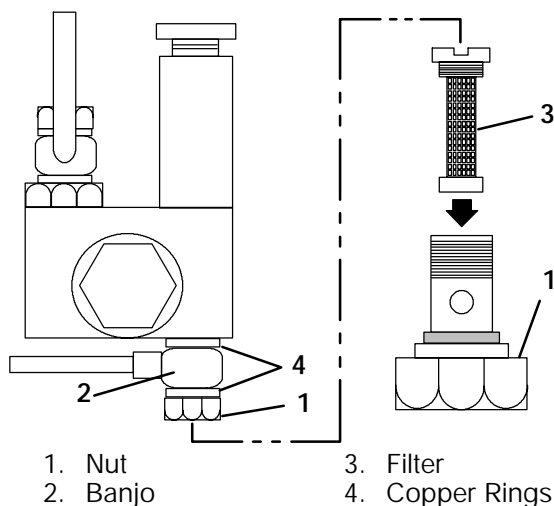

Figure 4-5. Mechanical Fuel Pump
a. Mechanical Pump (See Figure 4-5)